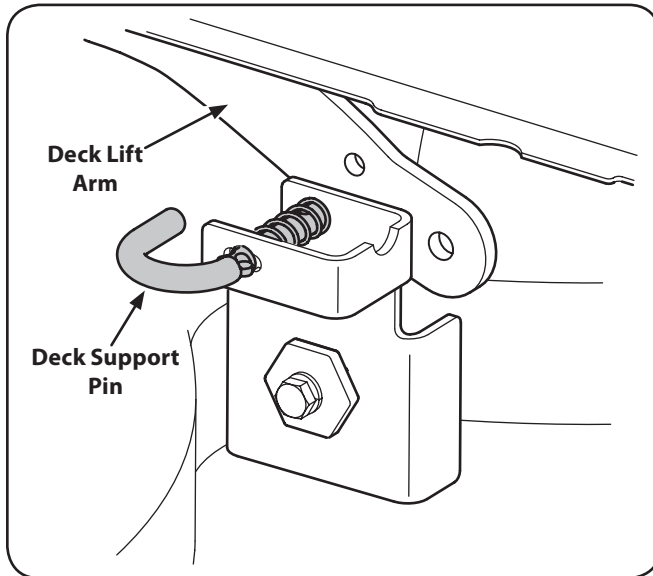

**Figure 7-3**
6. Pull the deck support pin outward to release the deck from the deck lift arm. See Fig. 7-3.